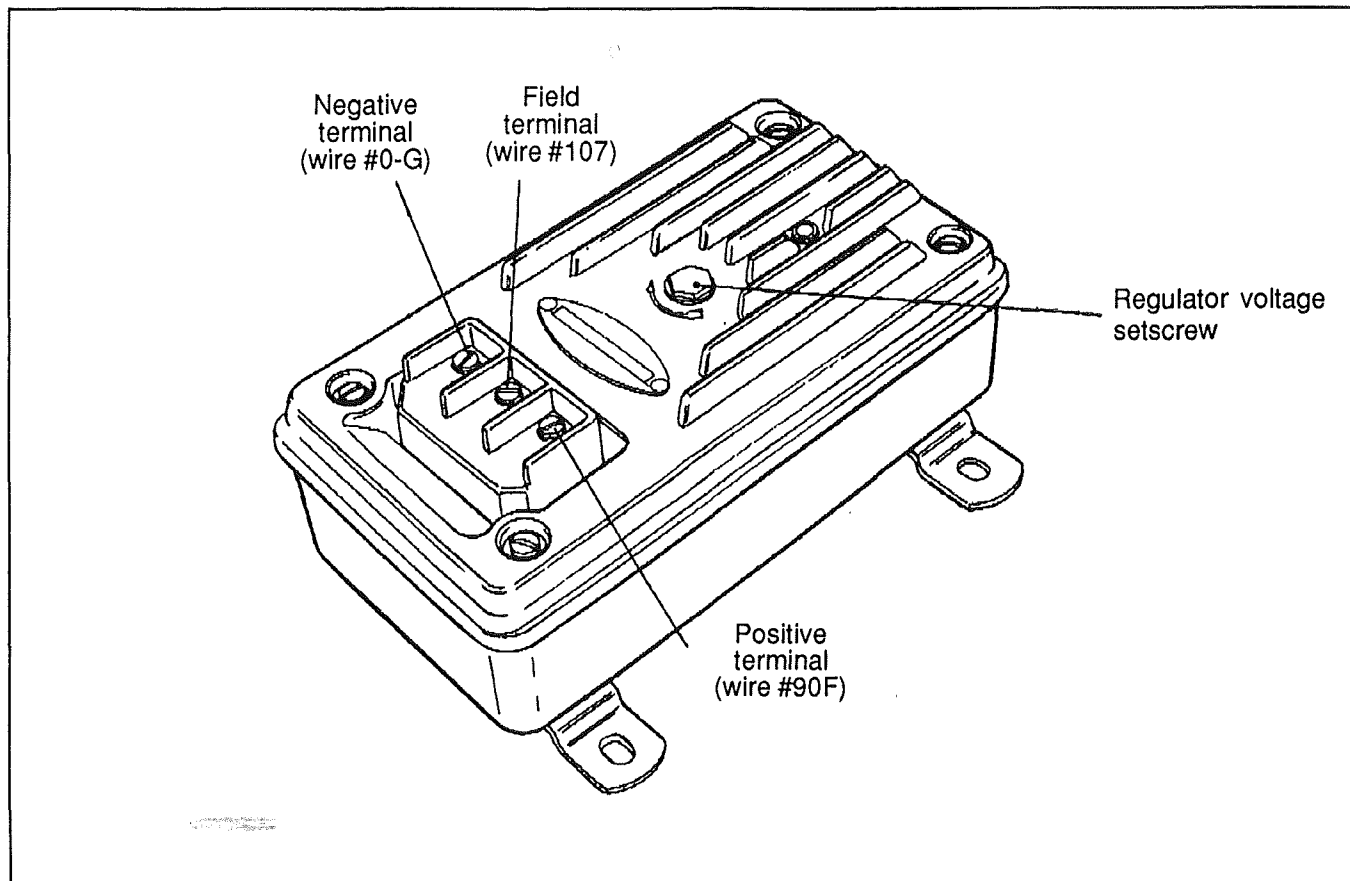

FIG. 27 - 24 volt regulator
The transistor regulator illustrated in figure 27 is an assembly consisting mainly of diodes, capacitors, resistors and transistors. These components are mounted on a printed circuit panel board to form a completely static unit containing no moving parts. Regulators of this type have only **three** (3) terminals which are marked "NEG", "FLD" and "POS".